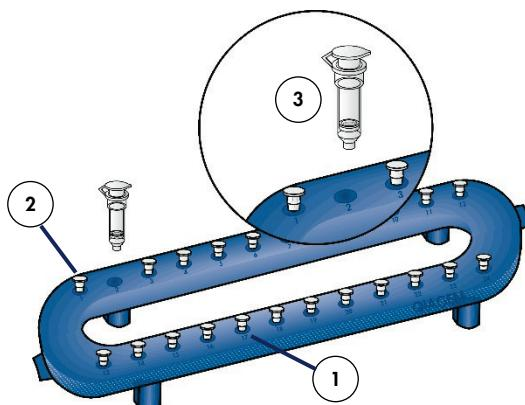

Figure 7. QIAvac 24 Plus. Setting up the QIAvac 24 Plus with QIAprep®, QIAquick, MinElute or RNeasy® Mini Spin Columns:
- 4a. **QIAvac 24 Plus** (see Figure 7, page 38):